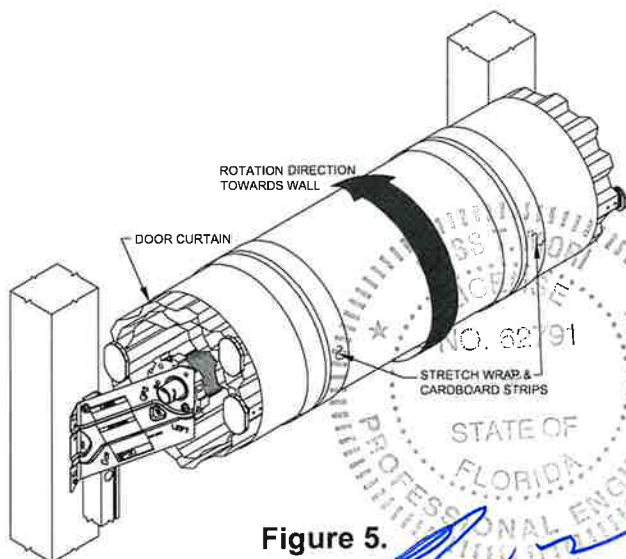

Figure 5.
6.1 The door spring(s) will have 1/4 turn of tension from Step 5. Rotate the number of turns shown in Figure 5, in the direction shown in Figure 5. Door balancing may require fine tuning.